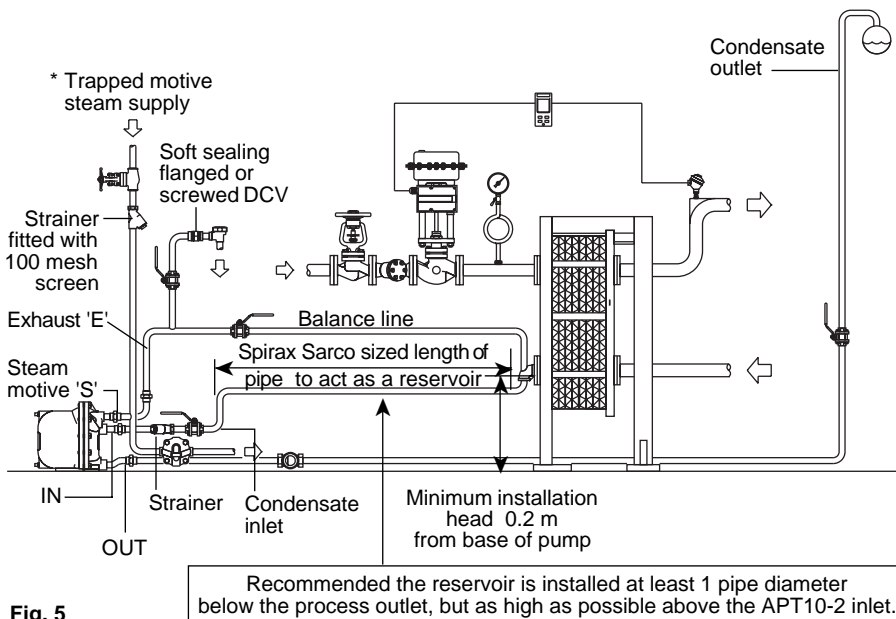

Fig. 5
To prevent condensate backing up into the equipment being drained, it is recommended that the inlet pipework is sufficiently sized to accumulate condensate during the pump's discharge cycle. Generally a length and diameter of pipe to accommodate 2 litres of condensate will be sufficient. It is recommended this condensate reservoir is situated at least 1 pipe diameter below the process outlet but as high as possible above the APT10-2 inlet. It is essential that a Spirax Sarco Y-type strainer with a maximum 0.8 mm perforation screen size is fitted at the condensate inlet of the APT10-2, as shown in Fig. 5.
The APT10-2 has four connection ports. The DN20 (¾") port marked (IN) should be connected to the outlet of the equipment being drained. The DN20 (¾") port marked (OUT) should be connected to the condensate return line. A flow arrow indicates the correct direction of flow. The DN15 (½") port marked (S) - steam should be connected to a trapped motive steam supply. *** It is important to ensure this line is drained of condensate at all times using a Spirax Sarco steam trap and filtered using a 100 mesh strainer.** The screwed DN15 (½") port marked (E) - exhaust should be balanced back as close as possible to the condensate outlet of the equipment. This balance line must always be connected to the top of the condensate pipe; as shown in Fig. 5.